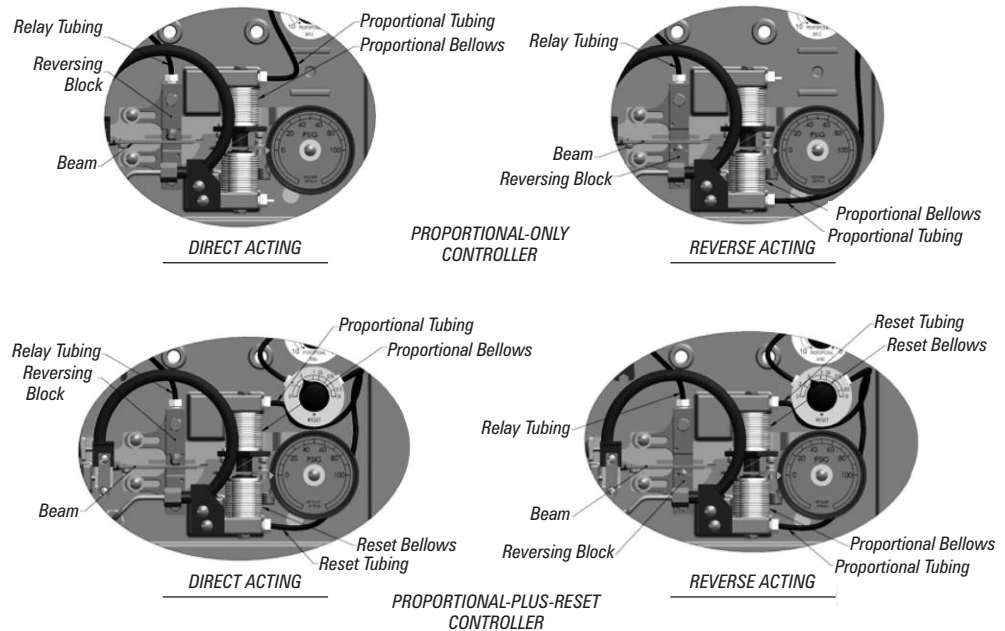

Figure 13 Tubing Connections. Direct/Reverse Action. Proportional-Only and Proportional-Plus-Reset Controllers.
- c. For a Proportional-only controller with remote set point: Disconnect the proportional and remote set point tubing from the mounting base and reconnect then in the opposite holes (Figure 13).